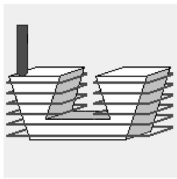

图 2-90 “Remove portions of pass in undercut” 示意图
- “Remove portions of pass in undercut”: 选中该复选框, 底切区域的刀具路径轨迹将移除, 如图 2-90 所示。